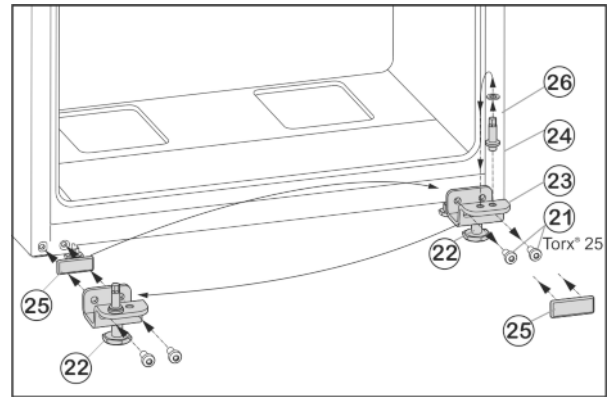

Fig. 7
- ▶ Unscrew fastening screws Fig. 7 (21).
- ▶ Remove the lower bearing block Fig. 7 (23), complete with bearing bolt Fig. 7 (24), washer Fig. 7 (26) and adjustable foot Fig. 7 (22).
- ▶ Unscrew the bearing bolt Fig. 7 (24), complete with washer Fig. 7 (26), re-locate it into the mounting hole on the opposite side of the bearing block and tighten again.
- ▶ Carefully remove the cover plate Fig. 7 (25) and re-locate it to the other side.
- ▶ Screw on the lower bearing block Fig. 7 (23), complete with bearing bolt Fig. 7 (24), washer Fig. 7 (26) and adjustable foot Fig. 7 (22) to the new hinge side, with the help of a cordless screwdriver if necessary, and **tighten (with 4 Nm)** once again.
- ▶ Lower the door from above onto the bearing bolt Fig. 7 (24).
- ▶ Unscrew the adjustable foot *Fig. 7 (22)* on the lower bearing block *Fig. 7 (23)* until it touches the floor.